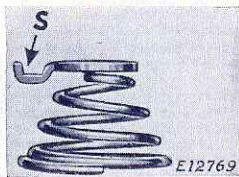

Fig. 22
If the spring and stop washer are in correct position, the extension (S) will clear the first (half) coil of the tension spring as shown in Fig. 22.